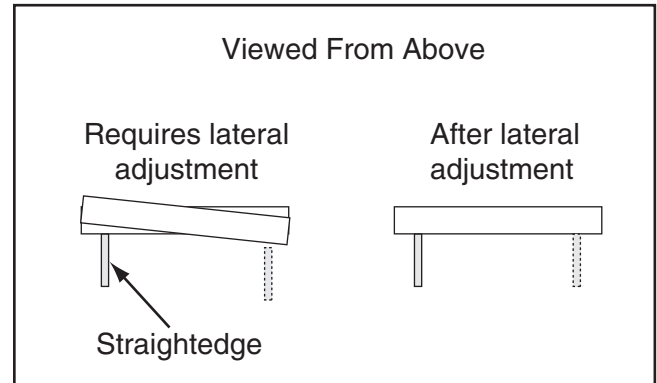

Figure 59. Before and after lateral wheel alignment (viewed from above).
- If the wheels do not align, they require lateral adjustment (see **Figure 59**); proceed to **Step 4**.
6. Rotate left and right adjustment bolts until lower wheel is coplanar with upper wheel, see **Figure 59**.